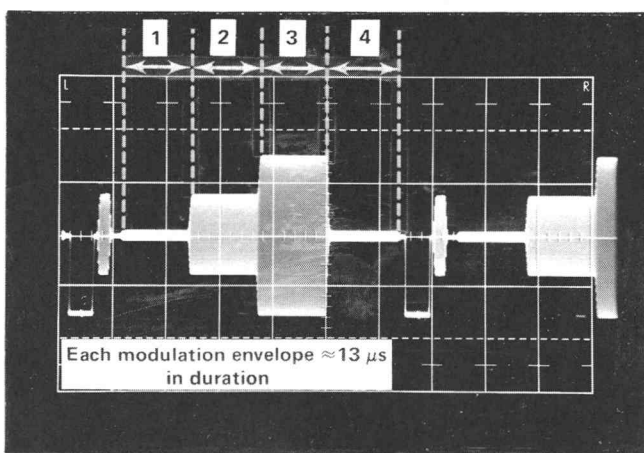

Fig. 5-23. Typical display showing the modulated subcarrier. Used to check amplitude and duration.
m. CHECK—Test oscilloscope display; display should be similar to Fig. 5-23.